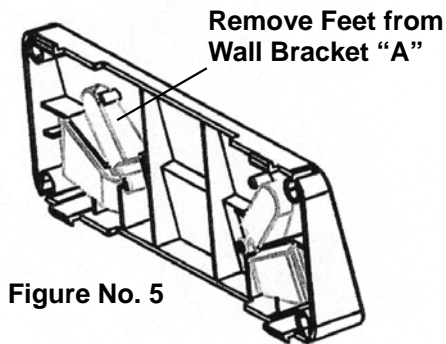
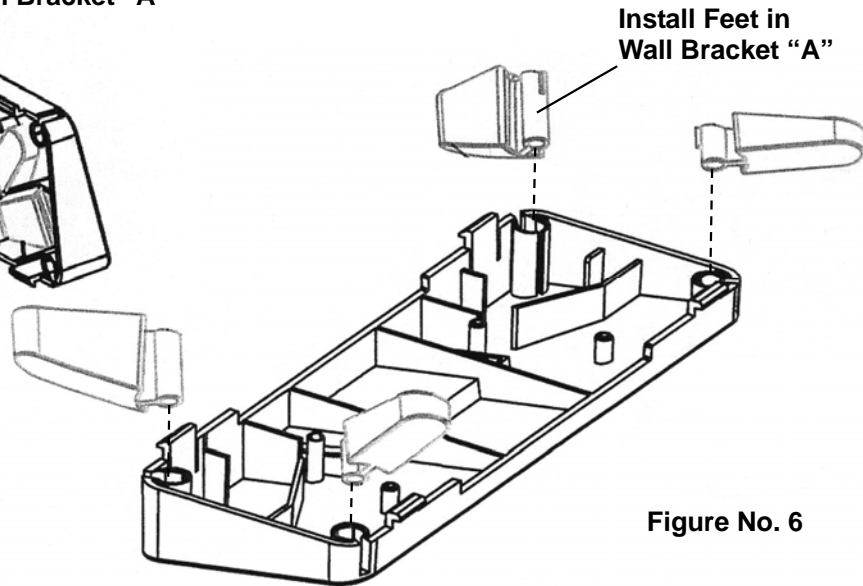

Figure No. 5
Figure No. 6
2. Referring to Figure No. 5, remove the four (4) feet from inside Wall Bracket "A" and install them in each corner of the bracket as shown in Figure No. 6.